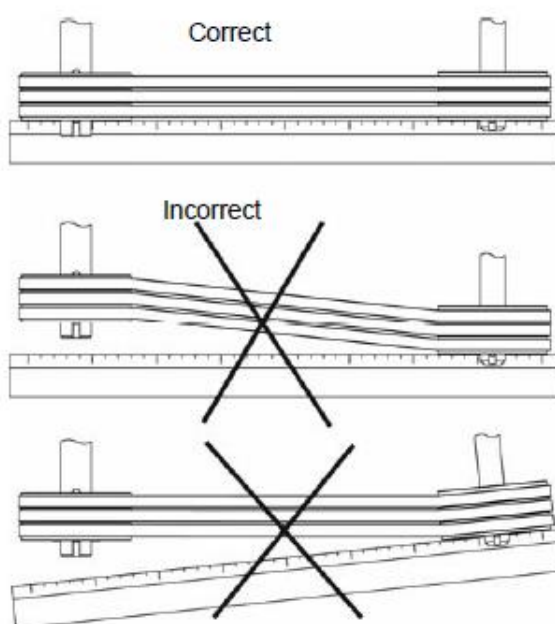

Fig.27. Pulleys adjustment
Once the new belts are assembled, verify the pulleys' alignment, checking with a gauge if they are parallel to each other and if their grooves are in a line. (fig. 27). Once they are adjusted, rotate the drive without any load to allow the belts to lay down in the grooves accurately. New belts should be stretched again after 50 hours of operation.
5. Adjust the pulley (fig. 27).